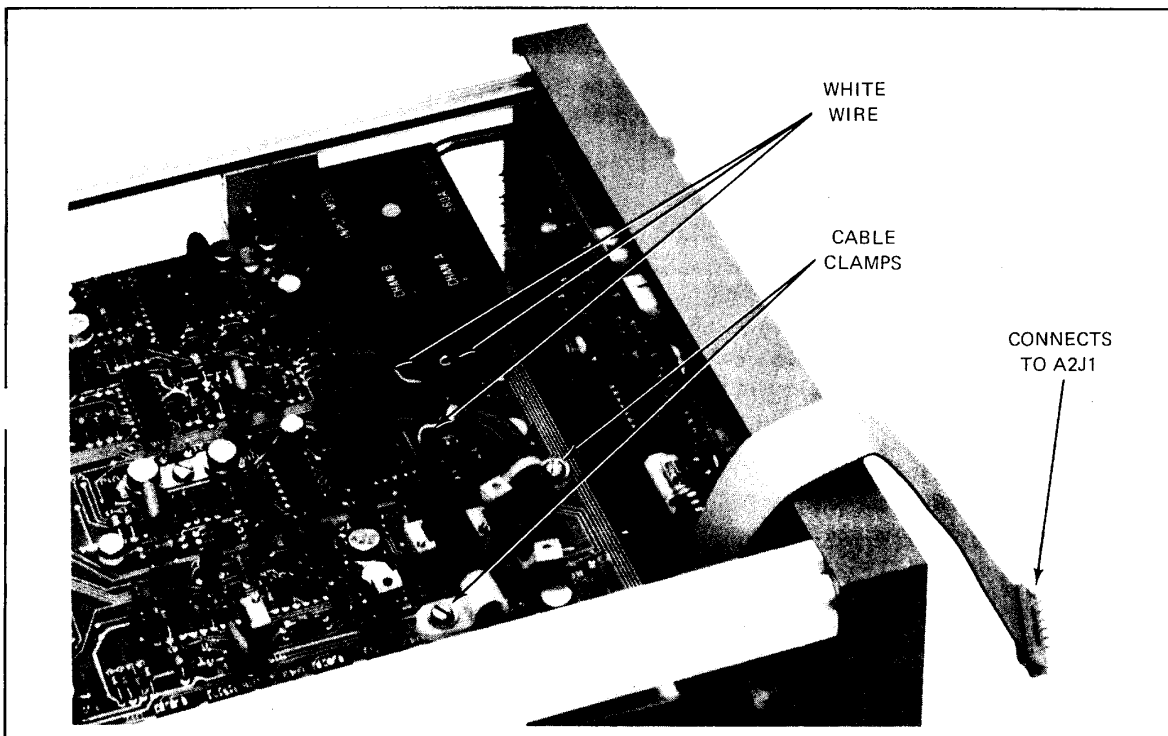
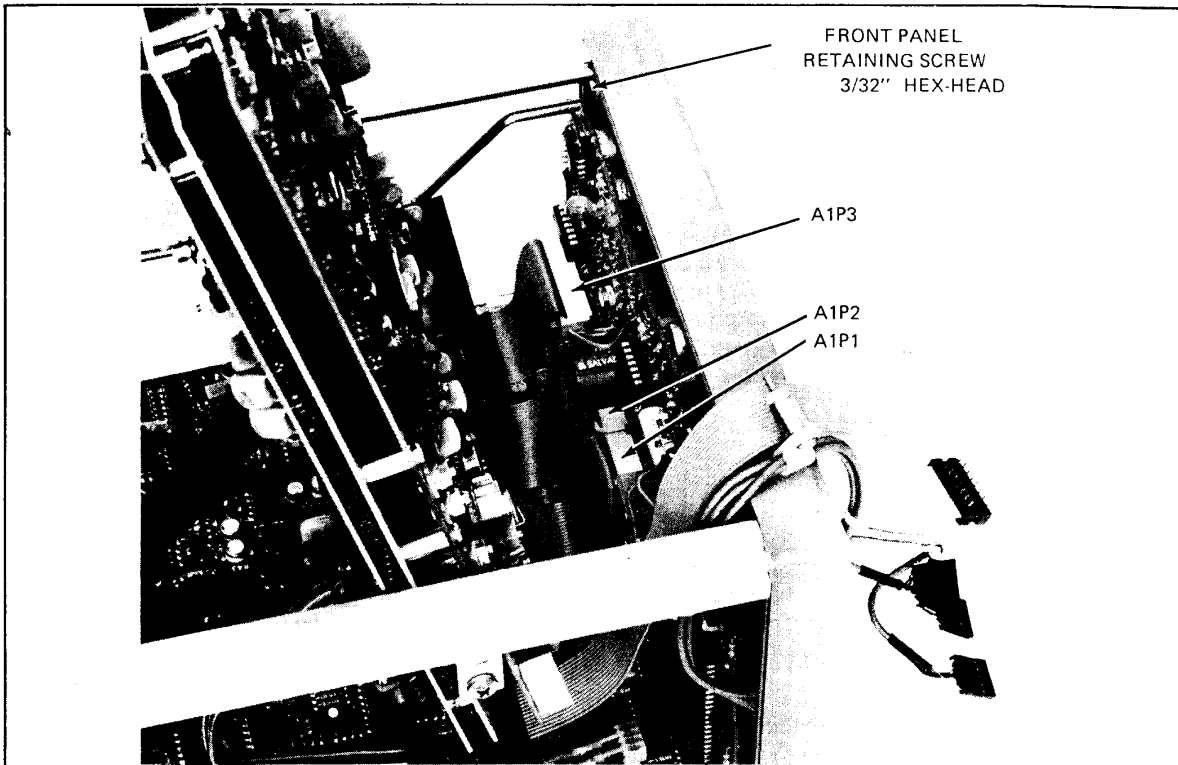

Figure 7-140. Network Analyzer Section With Input Cable Clamps Indexed
Figure 7-141. Network Analyzer Section With Connectors A1P1, A1P2, and A1P3 Indexed
2. Remove connector from jack A2J1 on Digital (A2) PCB. Fold this flatwire harness back, over front panel assembly (Figure 7-140) and out of the way.
4. Remove cable clamps (Figure 7-140) and fold cable harness back, over front panel assembly and out of the way (Figure 7-141).
5. Remove connectors from A1P1, A1P2, and A1P3 on Front Panel (A1) PCB (Figure 7-141).
6. Loosen front panel retaining screws using 3/32-inch hex wrench (Allen wrench). These retaining screws are located in the four corners of the panel (Figure 7-141). To prevent binding, all four screws should be loosened 2 to 3 turns before any one screw is loosened all the way.
9. Reconnect A, B, and R connectors; orient connectors so that white wire is positioned as shown in Figure 7-140.